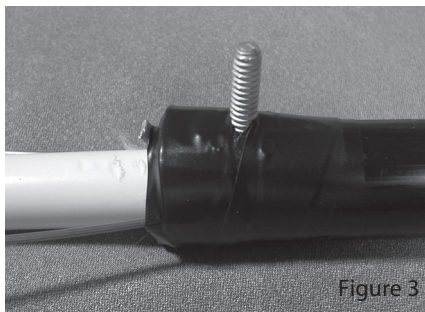

Figure 3
3. Wrap over the slit area with 2-3 layers of vinyl tape. (Figure 3)